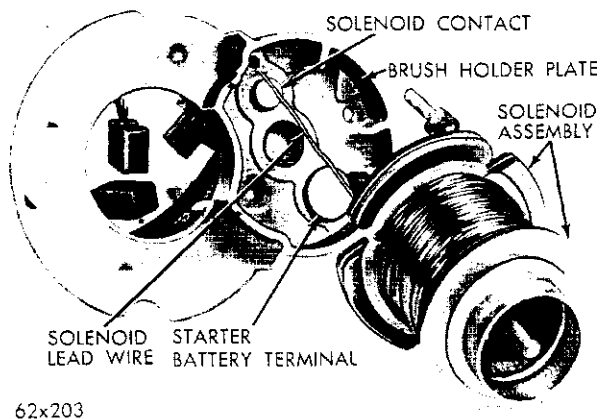
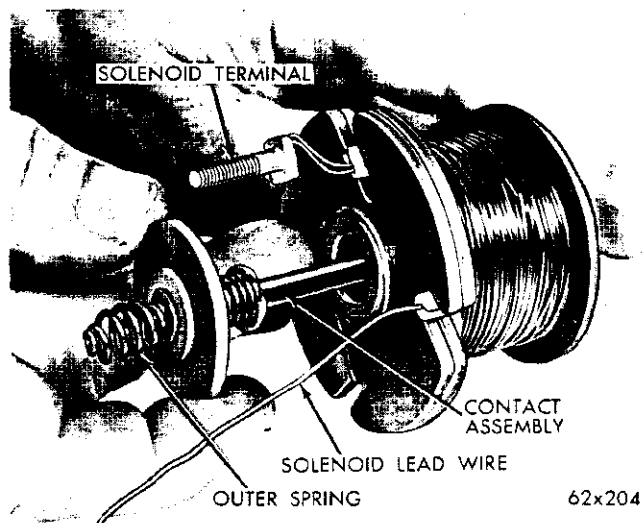

Fig. 25—Separating the Solenoid from the Brush Holder Plate
Fig. 26—Removing the Contact Assembly
(10) Remove the nut ($1\frac{1}{2}$ wrench), steel washer and nylon washer from the solenoid terminal.
(11) Separate the brush holder plate from the solenoid (Fig. 25).
(12) Remove the nut, steel washer and nylon washer from the starter battery terminal.
(13) Remove the starter battery terminal from the holder plate.
(14) Remove the solenoid contact assembly (Fig. 26).
(11) Install the solenoid contact assembly into the solenoid (Fig. 26). Make sure the contact spring is positioned on the solenoid contact assembly.